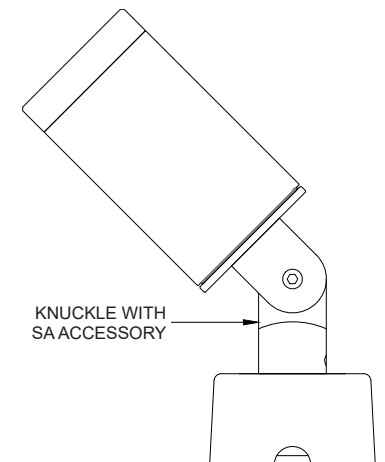

Fig. 3
6. If the SA accessory is used, where rotation position is fixed by an allen wrench instead of locknut (Figure 3), use high strength threadlocker on the male threads of the SA accessory. Thread the knuckle / fixture assembly fully into the Cover until it bottoms out.